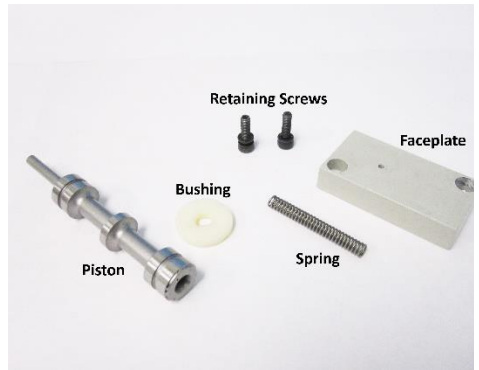

**Figure 4-1:** Solenoid
- 4) Locate the solenoid. See Figure 4-1.